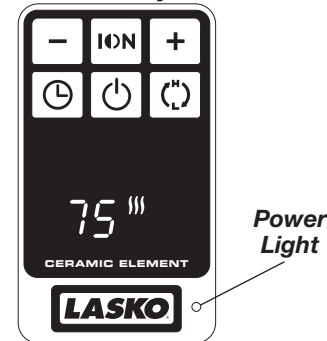

Figure 1
- Upon turning the Heater on, the unit will be in HIGH heat (H) (1500 Watts) and will display the current room temperature (Figure 1)
- Press the (C) button for LOW heat (L).